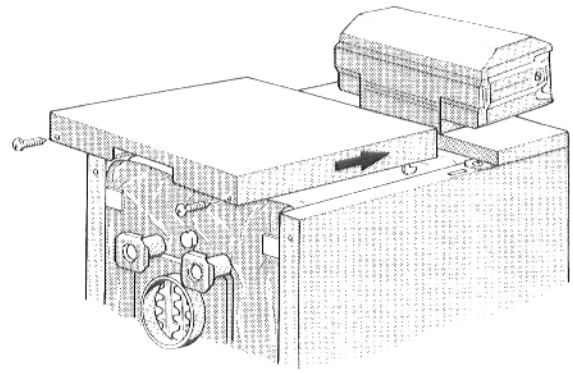

Fig. 14
- Place the rear boiler hood on the upper folded edge of the side panel, pull forward until the two hooks click into the slit in the folded edge of the side panel (Fig. 14).
- Screw the rear boiler hood onto the rear of the boiler with two self-tapping screws (Fig. 14).